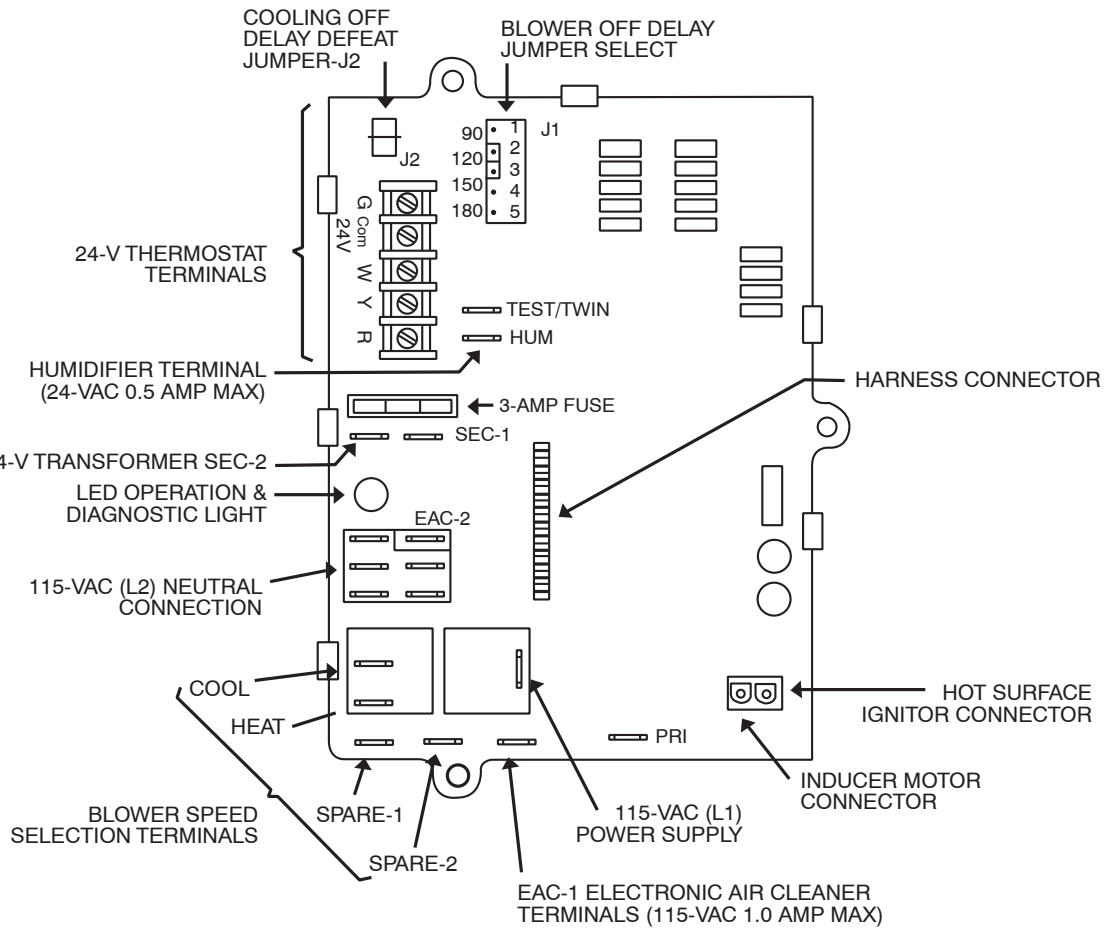
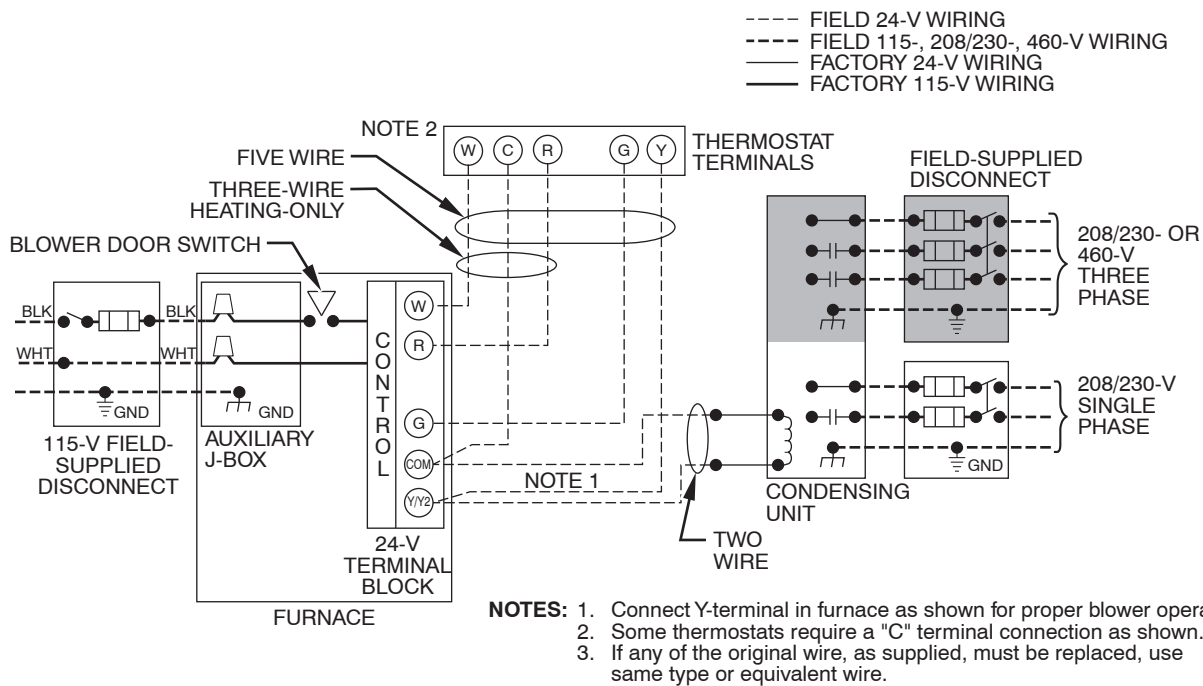

Fig. 20—Furnace Control
Fig. 21—Heating and Cooling Application Wiring Diagram with 1-Stage Thermostat
See Fig. 21 for field wiring diagram showing typical field 115-v wiring. Check all factory and field electrical connections for tightness.
7. Attach electrical leads as shown in Fig 21 and secure ground wire to green ground screw in J-Box
Make field 24-v connections at the 24-v terminal strip. (See Fig. 20.) Connect terminal Y as shown in Fig. 21 for proper cooling operation. Use only AWG No. 18, color-coded, copper thermostat wire.
Connect an accessory Electronic Air Cleaner (if used) using 1/4-in female quick connect terminals to the two male 1/4-in quick-connect terminals on the control board marked EAC-1 and EAC-2. The terminals are rated for 115VAC, 1.0 amps maximum and are energized during blower motor operation. See Fig. 20.
Connect an accessory 24 VAC, 0.5 amp maximum humidifier (if used) to the 1/4-in male quick-connect HUM terminal and COM-24V screw terminal on the control board thermostat strip. The HUM terminal is energized when pressure switch (PRS) closes. See Fig. 20.